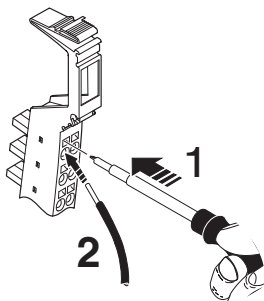

Figure 11-1 Connecting unshielded cables
- Push a screwdriver into the slot of the appropriate terminal point (Figure 11-1, detail 1), so that you can insert the wire into the spring opening.
- Insert the wire (Figure 11-1, detail 2). Remove the screwdriver from the opening. This clamps the wire.
- Push a screwdriver into the actuation shaft of the appropriate terminal point (Figure 11-1 on page 133, detail 1), so that you can insert the wire into the spring opening.
- Insert the wire (Figure 11-1 on page 133, detail 2). Remove the screwdriver from the opening. This clamps the wire.